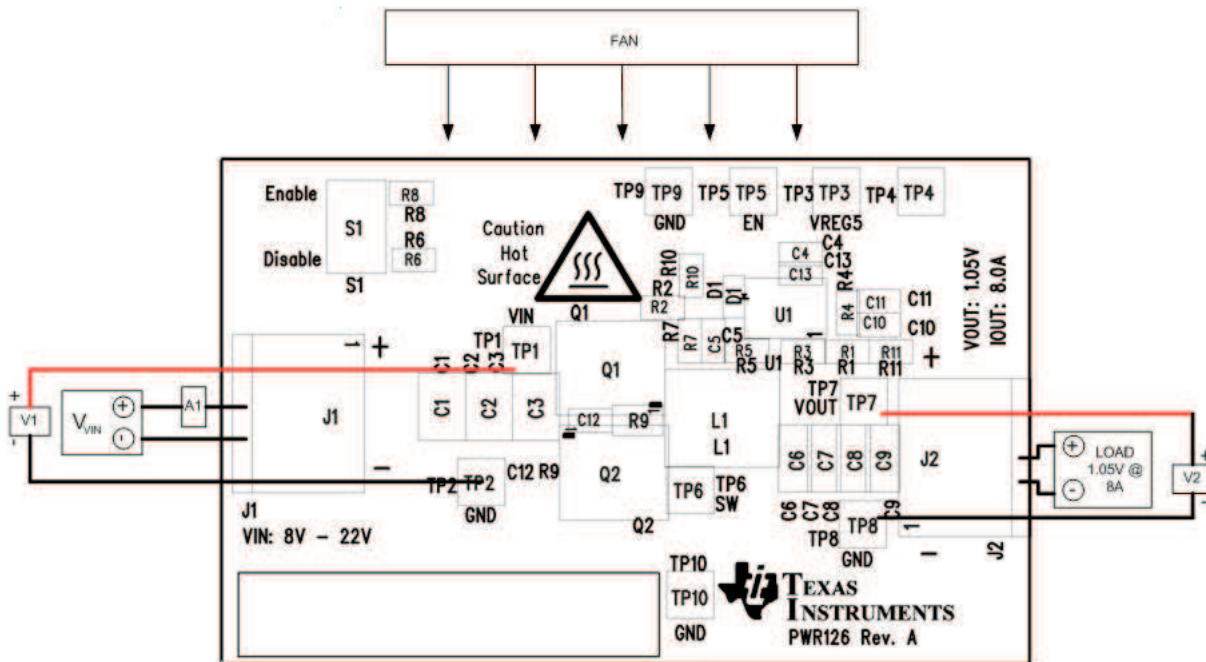

Figure 3. TPS53014EVM-126 Recommended Test Set Up
- **VIN:** The input voltage source VIN should be a 0-V to 30-V variable DC source capable of supplying 2 A_{DC}. Connect VIN to J1 as shown in Figure 3.
Figure 3 is the recommended test set up to evaluate the TPS53014EVM-126. Working at an ESD workstation, make sure that any wrist straps, bootstraps or mats are connected referencing the user to earth ground before power is applied to the EVM.
- Prior to connecting the DC input source V_{IN} , it is advisable to limit the source current from V_{IN} to 2 A maximum. Make sure V_{IN} is initially set to 0 V and connected to J2 as shown in Figure 3.
Other Connections: Place a fan as shown in Figure 3 and turn on, making sure air is flowing across the EVM.
1. Set up EVM as described in Section 5 and Figure 3.